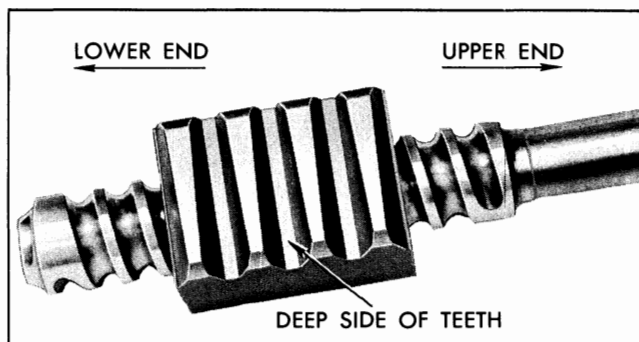

Fig. 9-39 Ball Nut Properly Installed on Shaft
1. Position ball nut on shaft so that deep side of teeth are located as shown in Fig. 9-39.